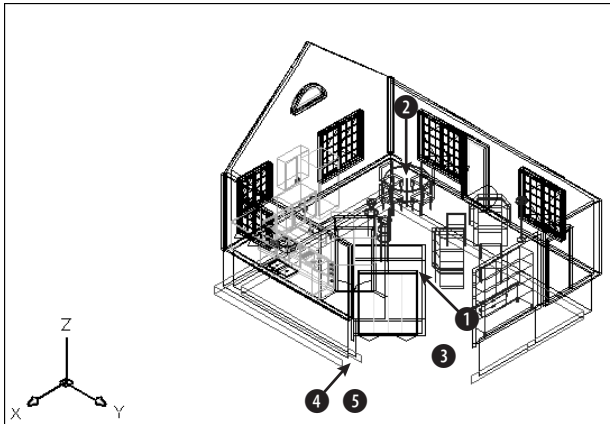

Figure 22-39: The NE isometric view of the house
4. Choose View ⇨ 3D Views ⇨ NE Isometric. The result is as shown in Figure 22-39. This is a quick approximation and helps you plan your camera and target points. To test for endpoints, start the LINE command. Place the cursor at ❶ in Figure 22-39. The Endpoint SnapTip and marker appear. Place the cursor at ❷, the top of the table leg. You should see the Endpoint SnapTip and marker. Press Esc to cancel the LINE command without drawing a line.
6. At the main DVIEW prompt, right-click and choose Points. At the Specify target point <14'-5 15/16", 21'-9 3/8", 6'-1 1/4">: prompt, pick the endpoint at ❷ in Figure 22-39. At the Specify camera point <14'-6 15/16", 21'-10 3/8", 6'-2 1/4">: prompt, pick the endpoint at ❶.
- slightly. At the Specify camera location, or enter angle in XY plane from X axis, or [Toggle (angle from)] <11.72523>: **prompt**, move the cursor close to ③ in Figure 22-39 *relative to the screen, not the model* and click.
11. Right-click and choose Pan. At the Specify displacement base point: **prompt**, pick ④ in Figure 22-39 *relative to the screen, not the drawing*. At the Specify second point: **prompt**, pick ⑤ *relative to the screen*. The display moves down.